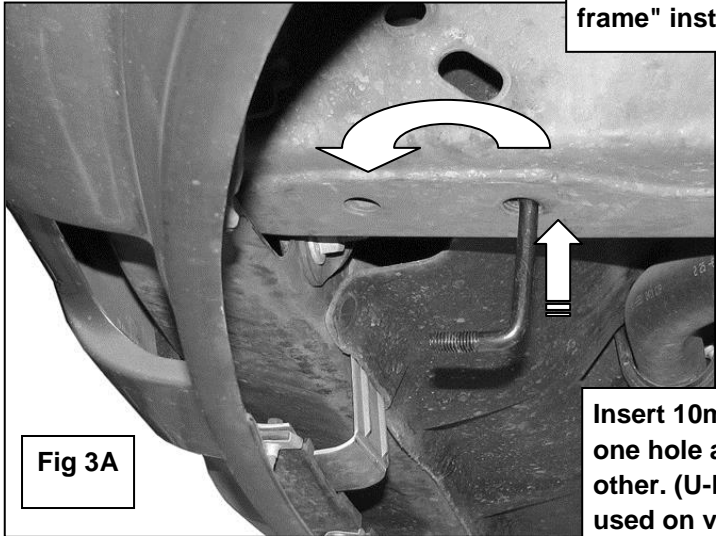

Fig 3A
Starting on the driver side of the vehicle, locate the two holes on the bottom of the frame. Insert (1) 10mm U-Bolt into one hole and out the other, **(Figure 3A & 3B)**. Hold the driver side Mounting Bracket in position with the slotted end toward the rear. Secure the Mounting Bracket to the U-Bolt with (2) 10mm x 27mm OD x 3 mm Flat Washers, (2) 10mm Lock Washers and (2) 10mm Hex Nuts, **(Figure 4)**. Snug but do not tighten the hardware.